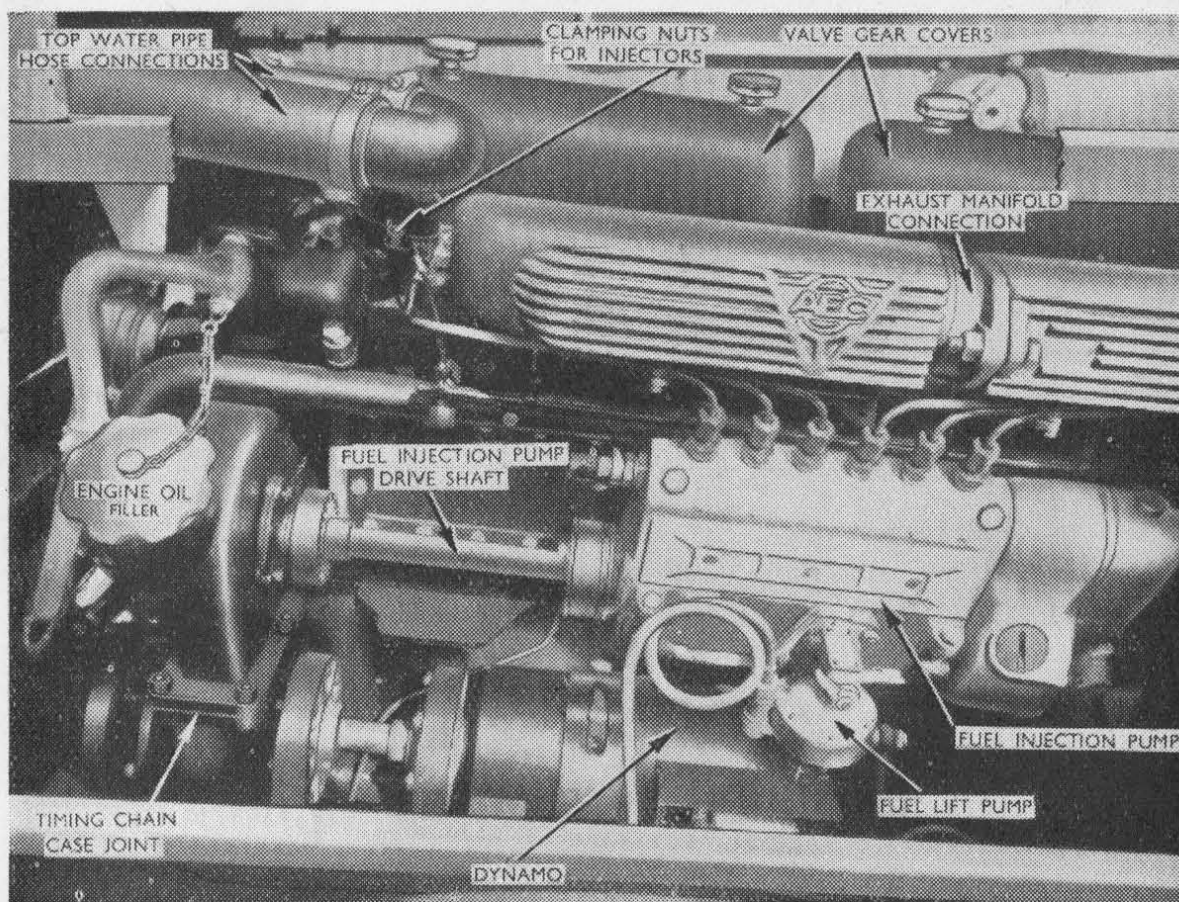

Fig. 13. Nearside View of Engine.
If a leak is detected, stop the engine, then tighten the clamping nuts (Fig. 13), taking care to avoid over-tightening.
(iv) **EXHAUST MANIFOLD JOINTS** (*Fig. 13*).
- (f) Valve gear covers (Fig. 13).
- (g) Timing chain case to crankcase (Fig. 13).
- (a) The long top hose (*Fig. 13*).
- (b) The short top hose (*Fig. 13*).